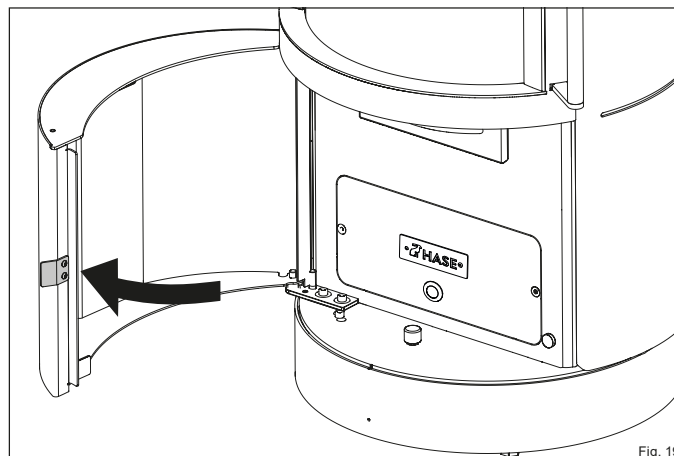

Fig. 19
- ▶ Open the service door (Figure 19).